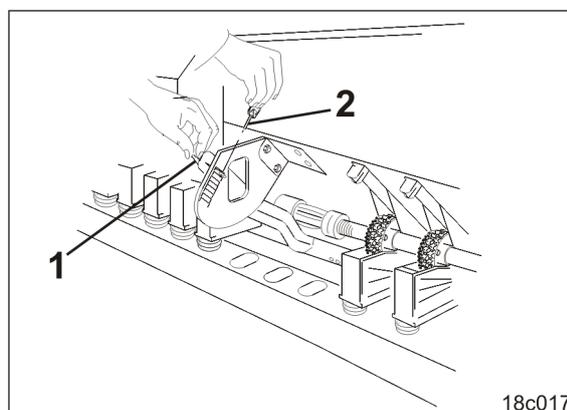

Fig. 167
1. Set the bottom flap lever (Fig. 167/1) in the group of holes at the value from the table (see page 58).
2. Secure the bottom flap lever with a linch pin (Fig. 167/2).